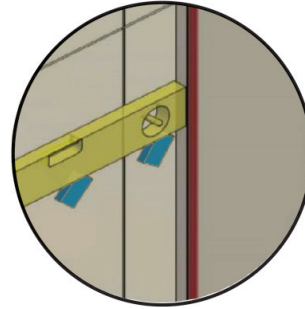

FIG 30.
- Remove backing from stabiliser blocks and press firmly onto wall (FIG 30).